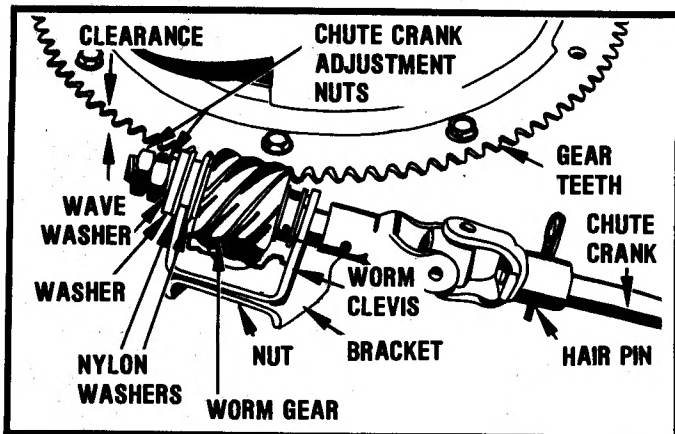

FIGURE 4
CHUTE CRANK ADJUSTMENT — FIGURE 4
2. Remove the hair pin cotter in the chute crank assembly. Separate the chute crank. See Figure 4.